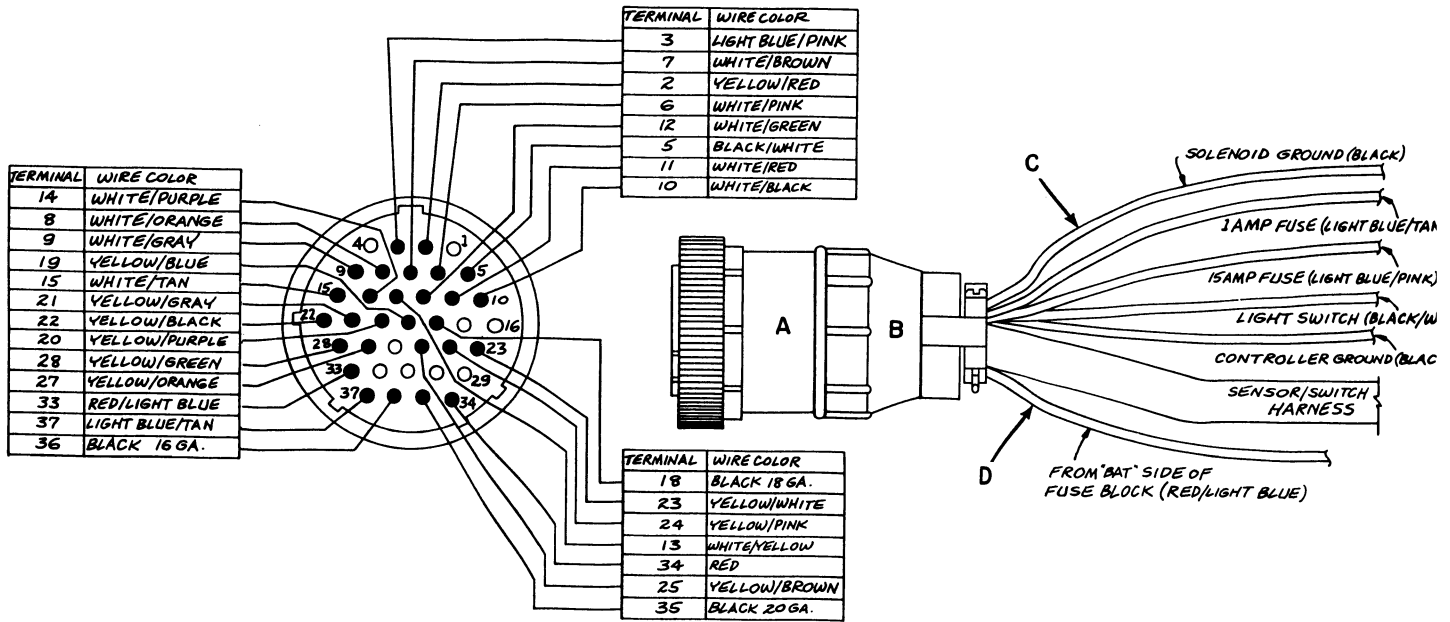

FIGURE 2-7
- Install the wires in the connector as shown in Figure 2-7.